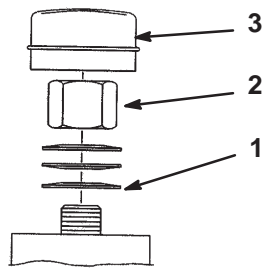

Figure 54
3. Remove dust cap from caster and tighten lock nut (Fig. 54).
4. Tighten until spring washers are flat and then back off a 1/4 turn to properly set the pre-load on the bearings (Fig. 54).
Important Make sure spring washers are installed correctly as shown in figure 54.
5. Install the dust cap (Fig. 54).